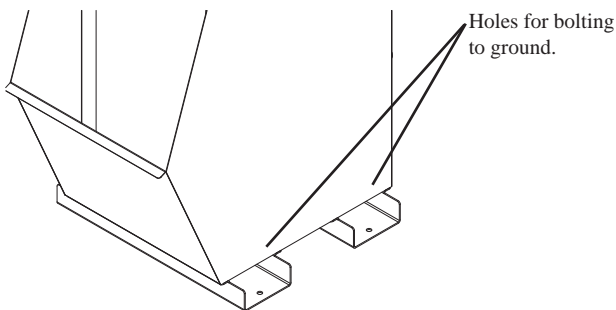

Fig. 1
4. Bolt the air cleaner to the floor in its final location using the provided holes in the skid rails (Fig 1).